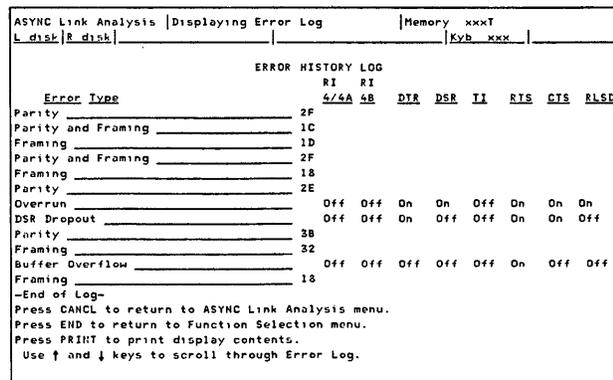

Figure 3-14. Sample Error History Log Display
2. Error History Log (Figure 3-14)